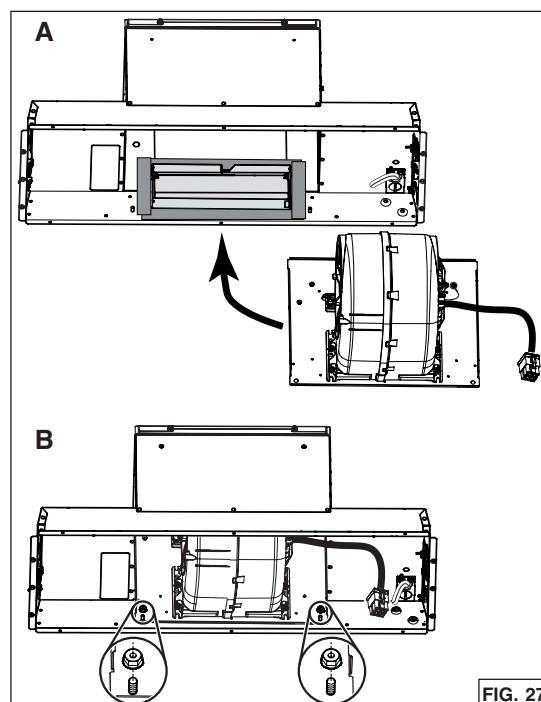

FIG. 27
- Insert the blower with its support plate inside the unit, where the back plate was initially (A). Attach to the unit using 2 nuts previously removed in step 7 on page 12 (B) (FIG. 27).